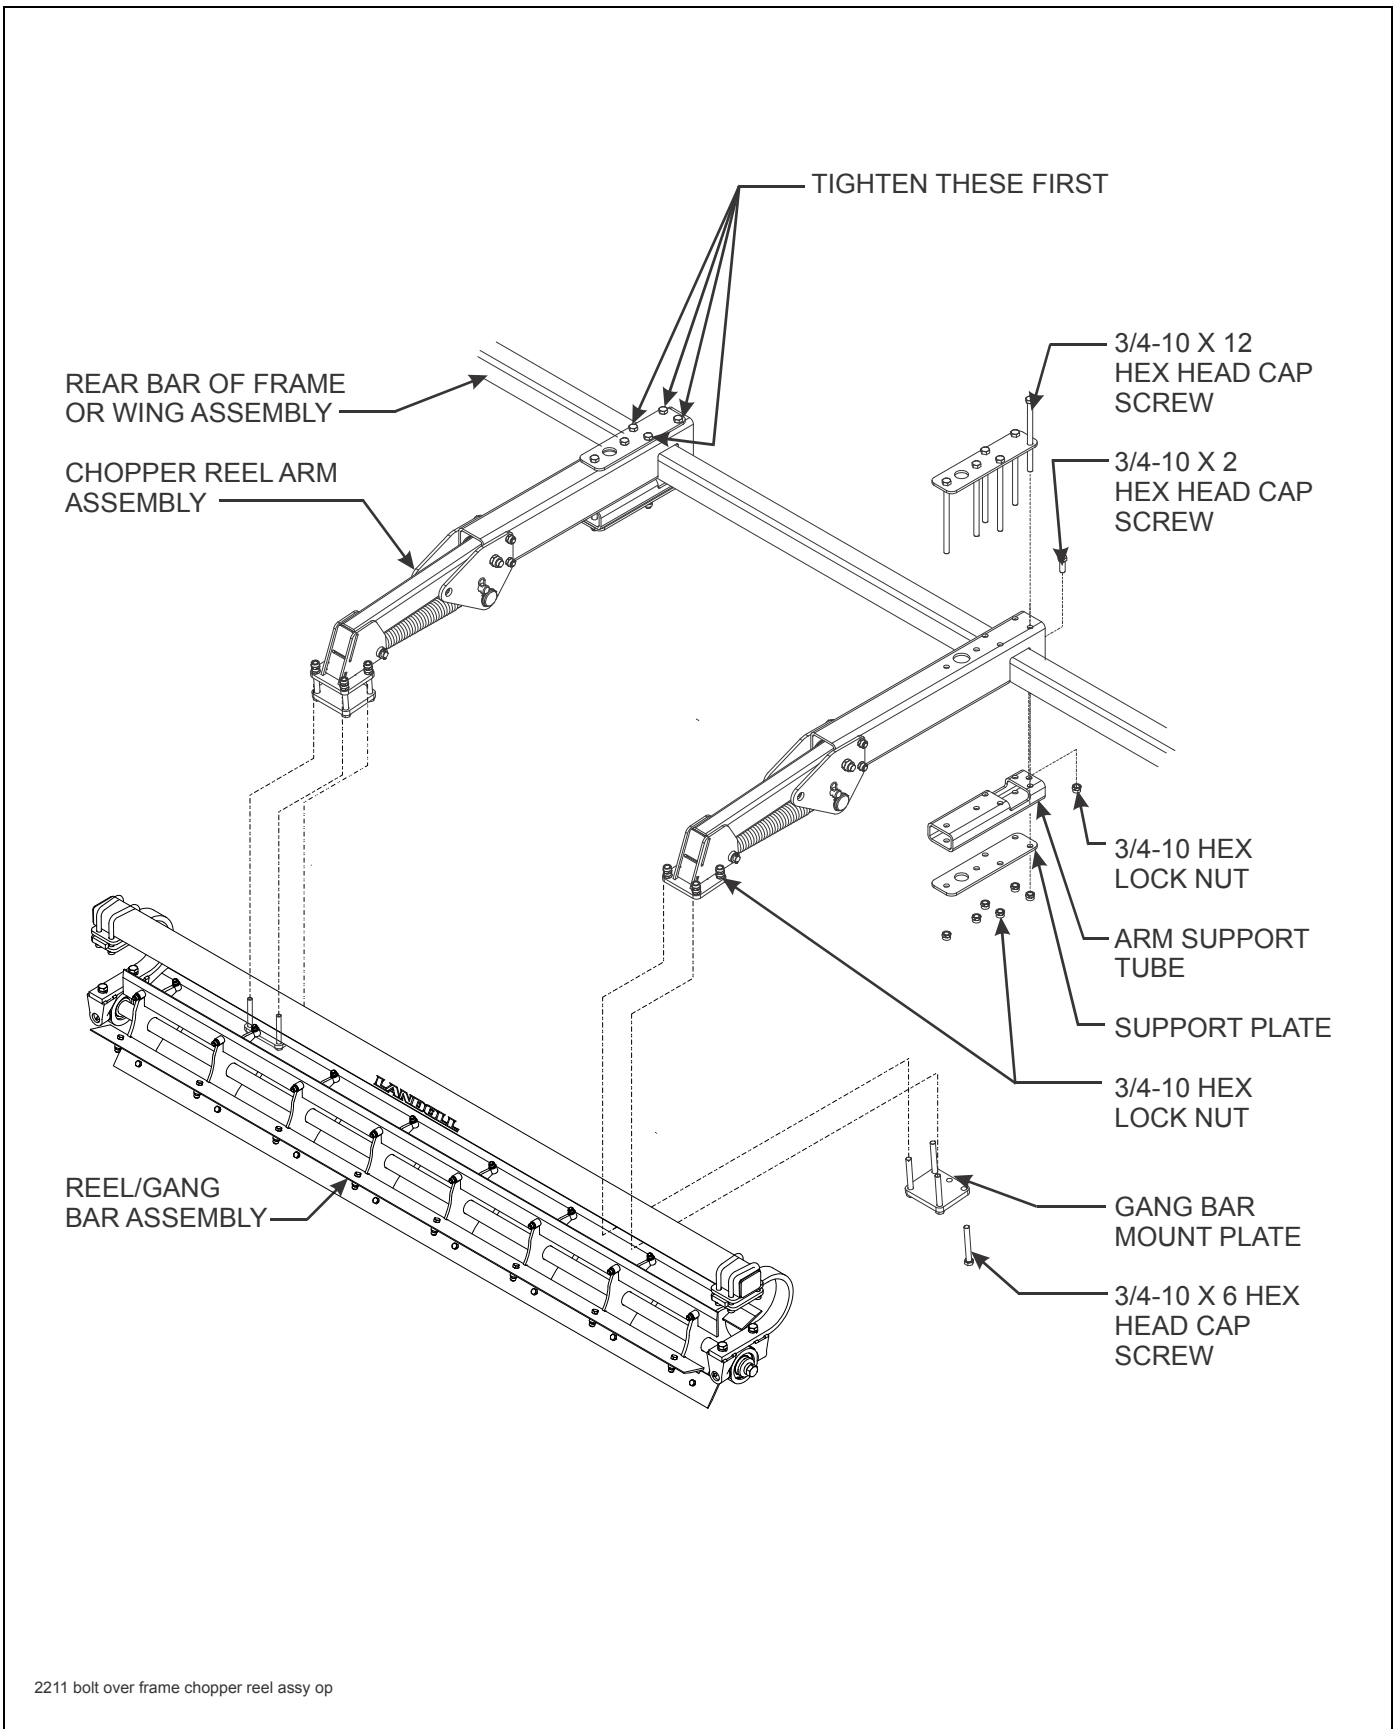

Figure 3-28: Standard or Hydraulic Tubular Mount Chopper Reel Installation (Option)
2. Attach top plate to top of chopper reel arm assembly using (6) 3/4-10 x 12 hex head cap screws. Slide arm support tube and bottom plate onto 12" hex head cap screws on underside of chopper reel arm assembly and rear frame.
3. Evenly tighten the (4) 3/4-10 x 12 hex head cap screws marked in **Figure 3-28** first. Then tighten the front 3/4-10 x 2 hex head cap screw. Lastly, tighten the two remaining 3/4-10 x 12 hex head cap screws last, but be sure to **NOT** overtighten. These screws need to be snug.